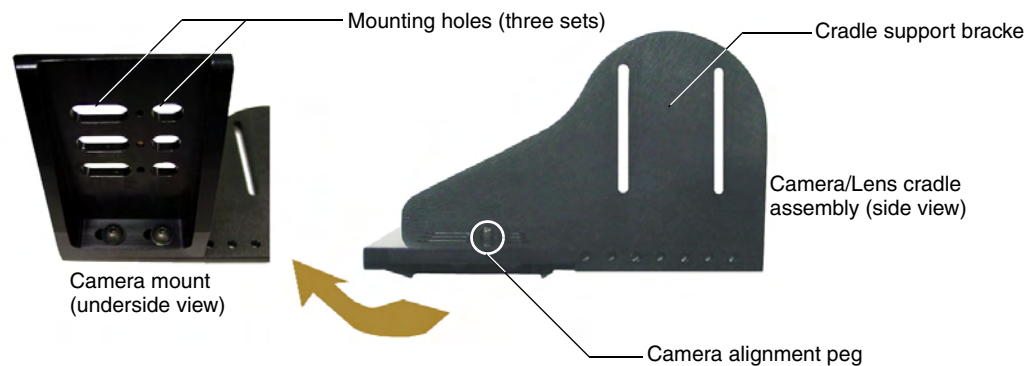

FIG. 15 Camera bracket assembly
1. Separate the camera mount and the cradle support bracket by removing the two 1/2" screws on the underside of the assembly (see FIG. 15) using a 3/32" Allen wrench.
3. Secure the camera/lens to the mount (at the camera alignment peg) with the 1/2" screw and 1/10" thick washer supplied (see FIG. 15).